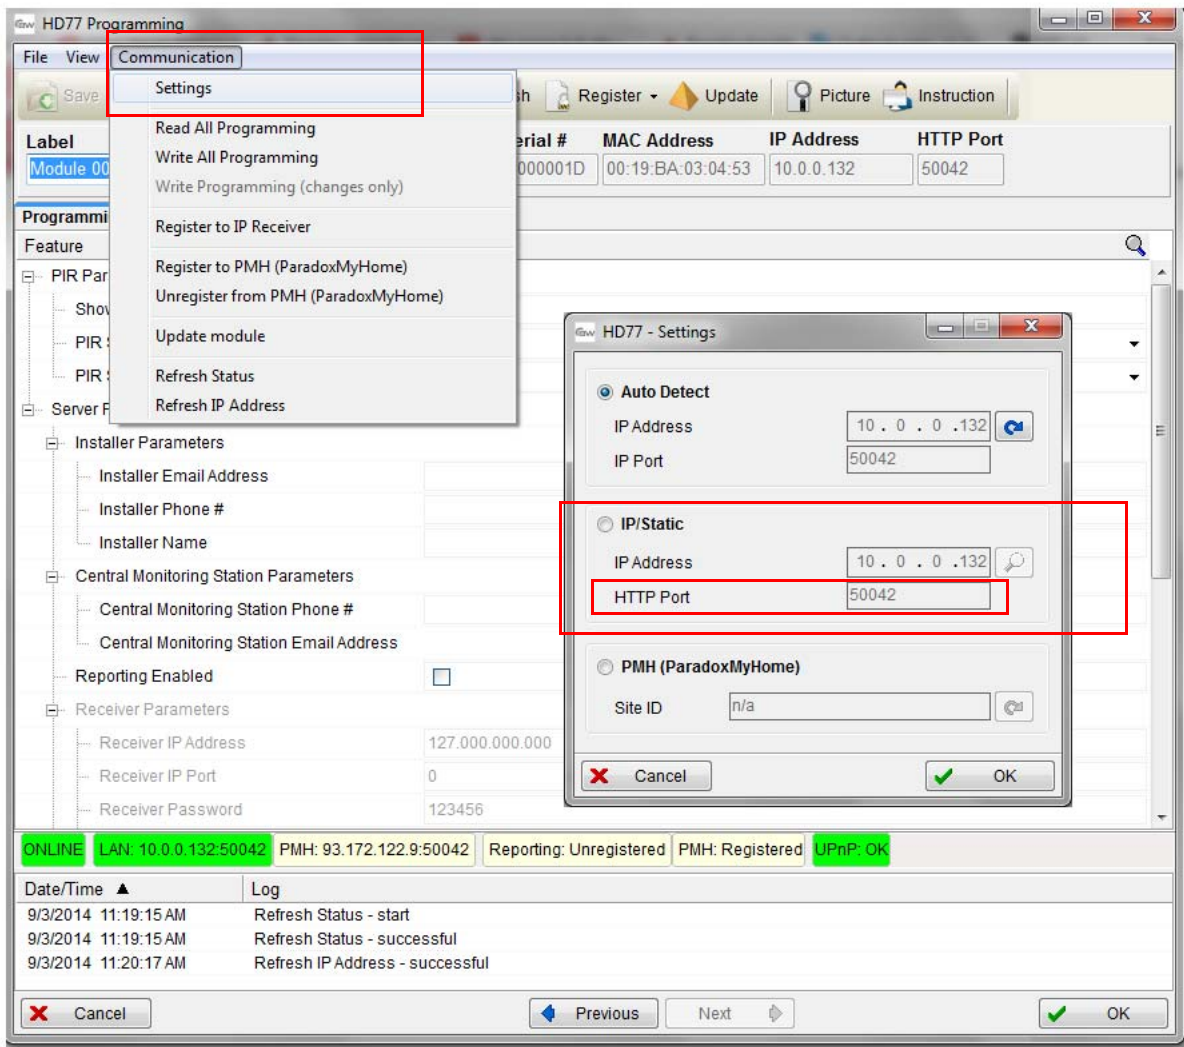

Figure 32 – HD77 — Settings Update Graphic
10. Go to HD77 — Settings. See (see *Figure 32*).